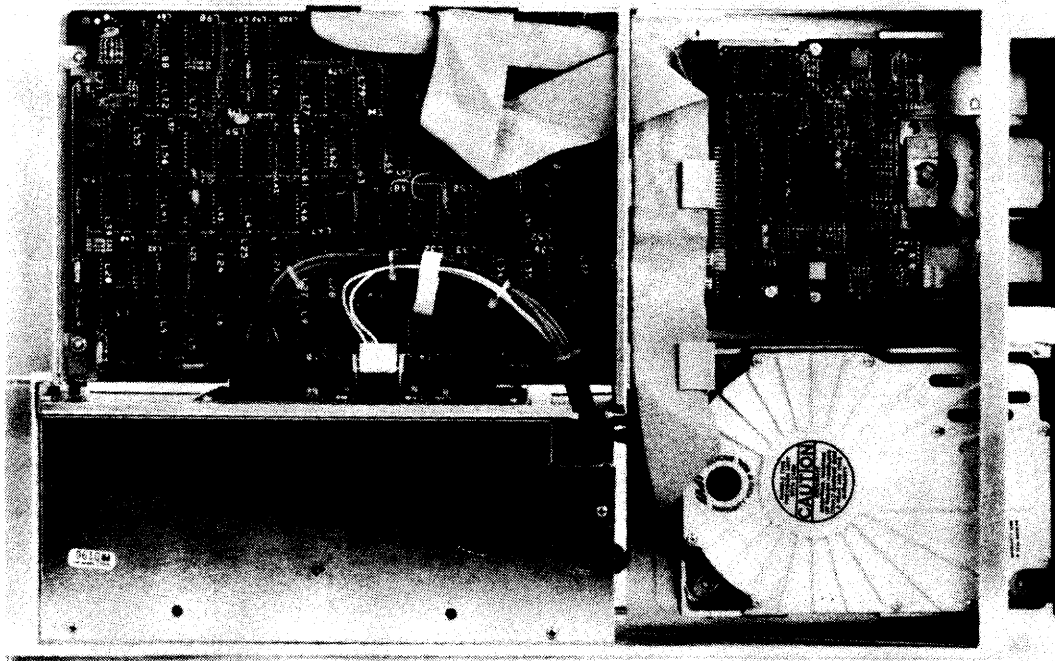

Figure 5-4. Electronic Unit in Vertical Position
- 4) Now set the Electronics Unit in the Vertical position (see Figure 5-4) with the power supply down and carefully remove the System Floppy Drive ribbon cable from the top left connector J5 and remove Drive B ribbon cable (if any) from connector J6 located on the 8221 CPU/System board. Pull enough ribbon cable slack to move the connectors out of the way.